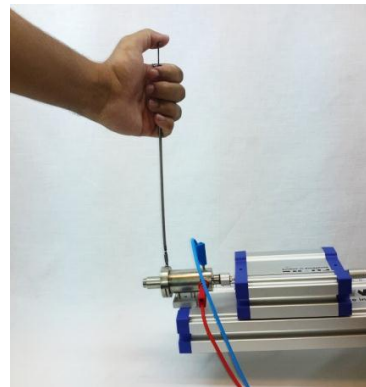
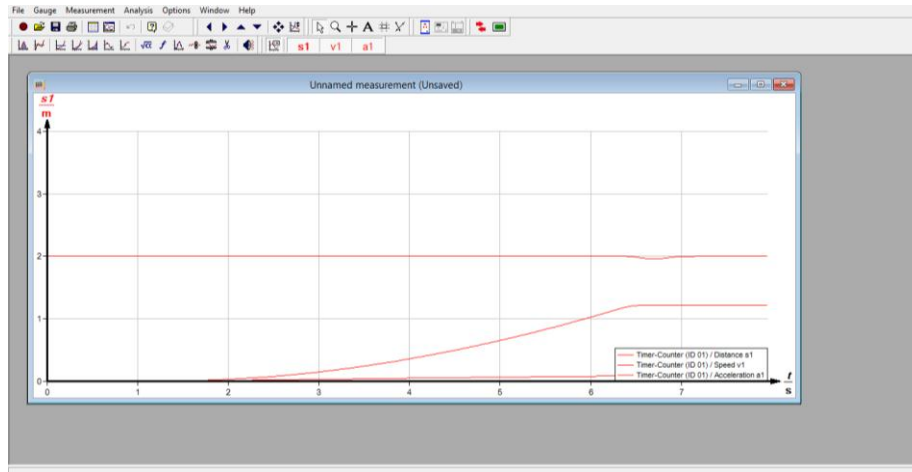

Figure 3.16: Pressing of metal plunger.
Figure 3.29: Distance – Time, Velocity-Time and Acceleration-Time curves.
- 10- Wait for about 2 seconds then press the metal plunger in the starting device (12) as shown in Figure 3.16 to release the cart and give it an initial velocity.
- 7- Start recording the measured values in the Measure software by pressing the “Record” button (●). At the same instant, press the metal plunger in the starting device (12) as shown in Figure 3.16 above to release the cart.
- 8- Stop the measurement by pressing on () after the cart (11) hits the tube with plug (10).
- 10- A new window will appear as shown in Figure 3.29.